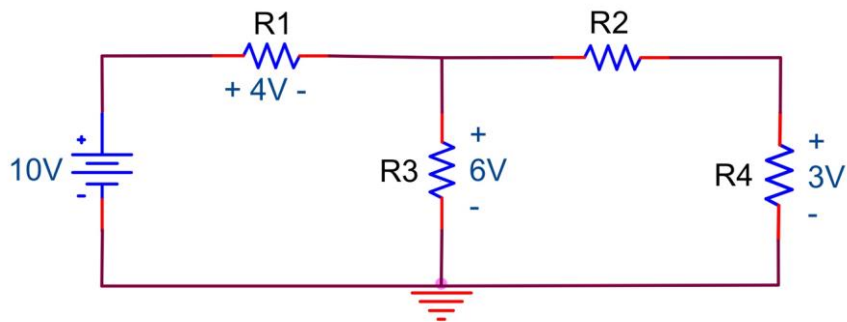

Figure 5.16
5. Construct Figure 5.16 with the values chosen in the prelab. Ensure that the resistors are measured individually prior to placing on the breadboard.